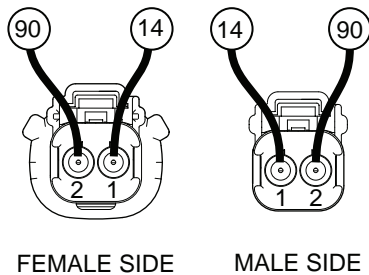

Figure 18. C3 Choke Solenoid Connector
1. See Figure 18 for the gas pressure test point on the fuel regulator. The fuel pressure can be checked at Port 3.